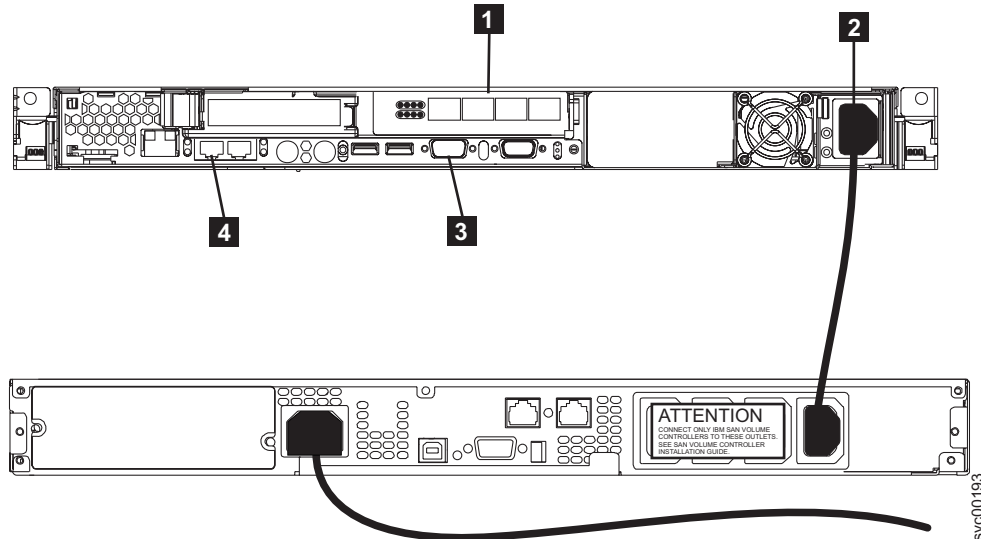

Figure 1. Power cable and signal sockets for the SAN Volume Controller 2145-8F4 and 2145 UPS-1U
- Ensure that the power cable **2** is plugged into the load segment receptacle of the 2145 UPS-1U. Also, ensure that the other end of the 2145 UPS-1U power cable is connected from the 2145 UPS-1U to the distribution point in the rack. Figure 1 shows the connectors for the SAN Volume Controller 2145-8F4 and the 2145 UPS-1U.